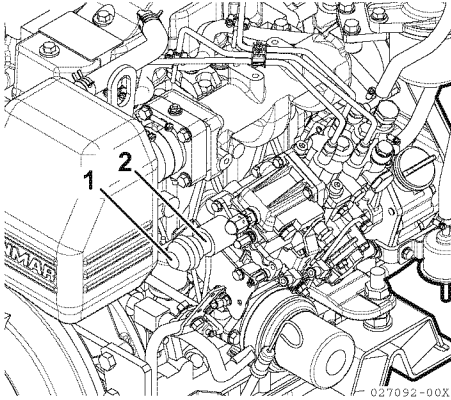

Figure 5
If the engine cannot be shut down by the stop switch on the panel, stop the engine by pushing the button (Figure 5, (1)) at the back of the stop solenoid (Figure 5, (2)).